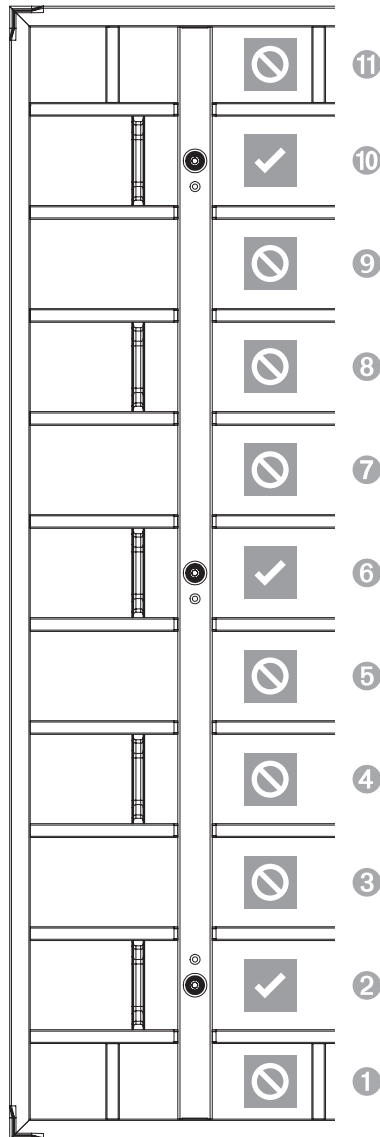

Fig. D3.02
- The Adaptor MXE 330 (15) is compatible with the Panels MX-2 330.
- The Adaptor MXE 330 (15) is placed at the tie position (Fig. D3.02) and serves as an additional connection option for positioning the Steel Waler SRU U120 (89) at the tie height.
- The Steel Waler SRU U120 (89) positioned there serves as a stiffening and force-transmitting element when forming outside corner solutions.
- The Adaptor MXE 330 (15) may only be fitted to the following Panels MX-2 in accordance with its intended use:
- The Adaptor MXE 330 (15) may only be fitted at the positions specified in Fig. D3.02.